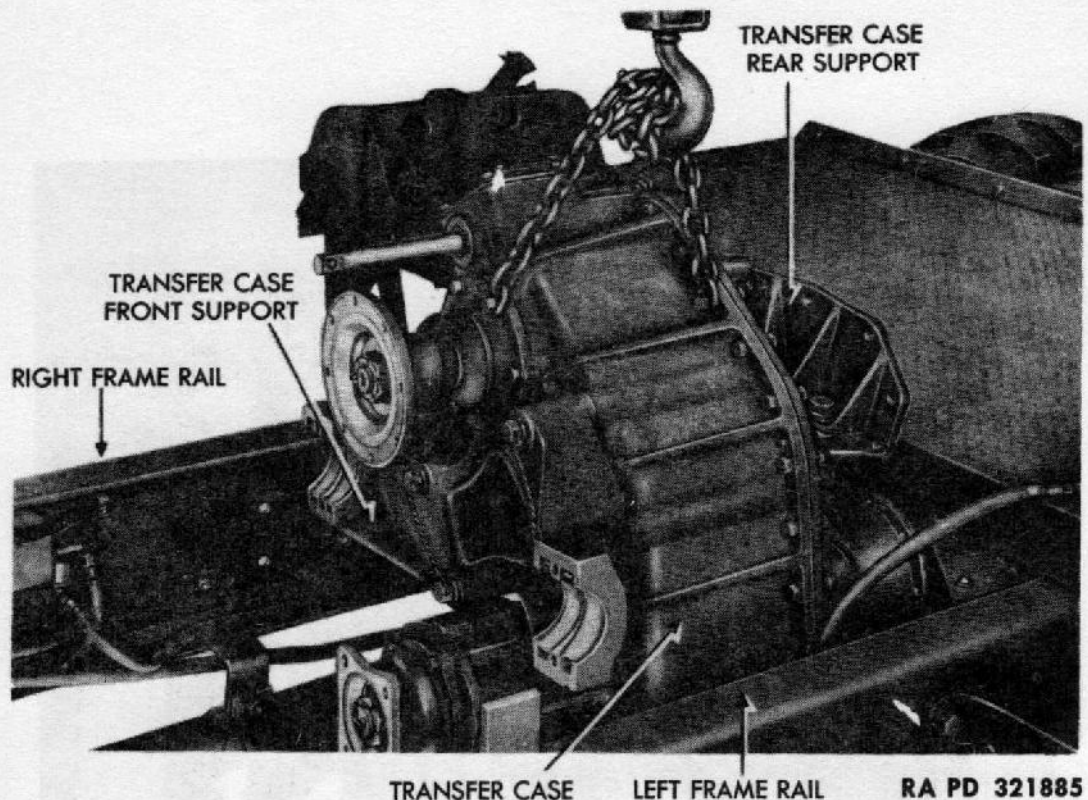

Figure 94 — Removing Transfer Case
a. **Attach Rear Support** (fig. 94). Use a hoist, and lift transfer case into position between frame rails. Attach rear support to transfer case rear support member with lock washers, nuts, and bolts.